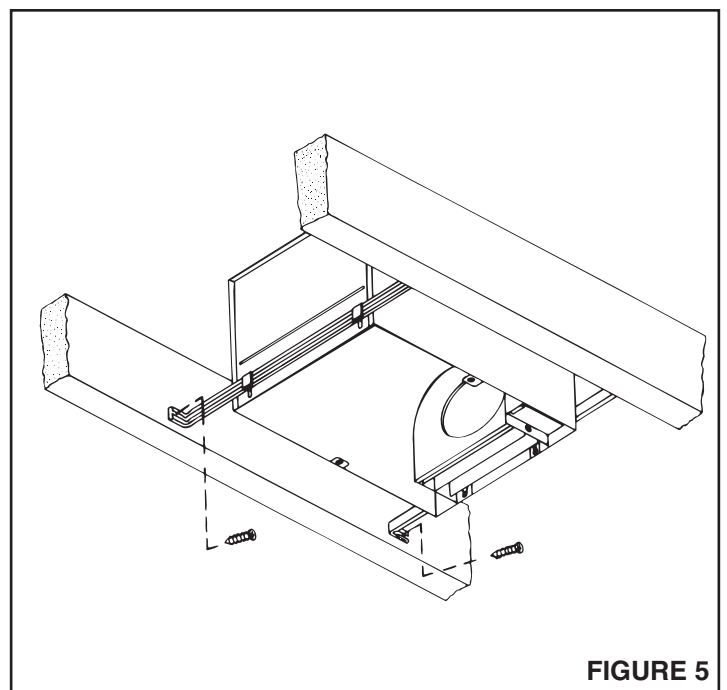

FIGURE 5
2. **Refer to Figure 5.** Using nails, secure hanger bars to joist.